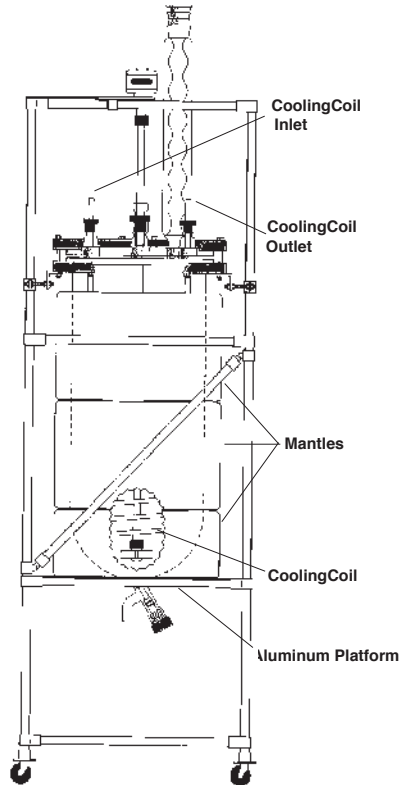

Figure 1
- 3) Aluminum base platform should already be in position on frame. If not, set platform on second set of horizontal bars and secure under three of the diagonal brace clamps (see Fig 1). Platform is adjustable vertically by repositioning second set of horizontal bars.